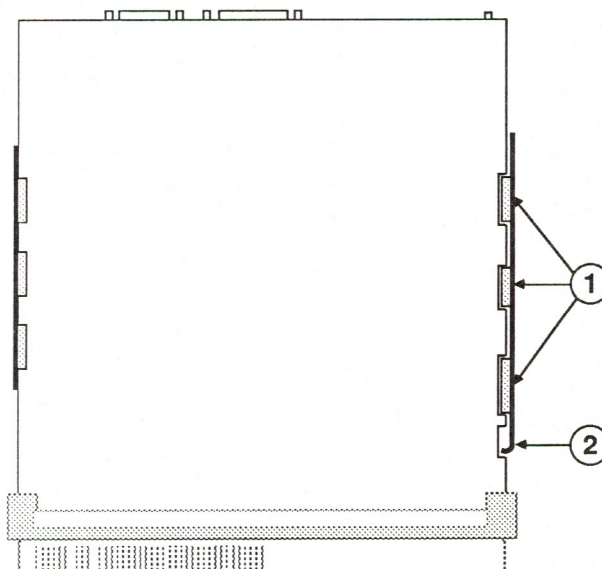

FIGURE 16
3. Exactly align the tabs on the right edge of the board with the notches on the right metal bracket (Figure 16, #1).
4. Settle the right edge of the board into the right metal bracket, then slide the board down until you hear it click into place. The lower right tab of the board should be flush against the curved "barrier" on the lower right edge of the metal bracket (Figure 16, #2).